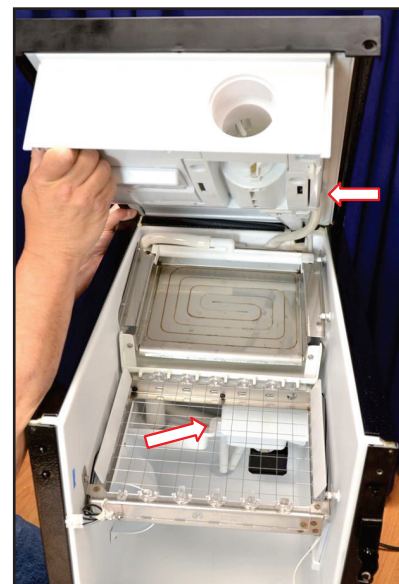

FIGURE 21
4. Unsnap water tube on the reservoir cover. Disconnect the wire harness plugged into the right side of the control housing. See *Figure 21*.